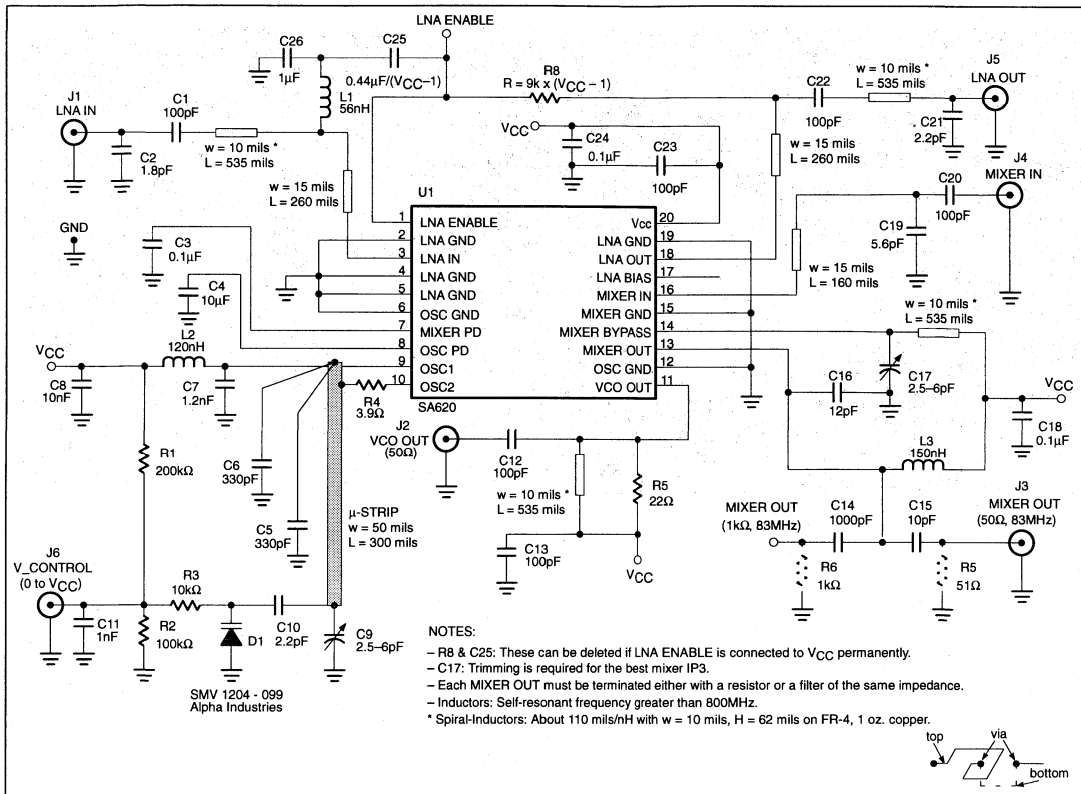

Figure 71. SA620 Application Board
Figure 71 shows the schematic of the current application board for the SA620. The functional description of each pin and its associated circuitry is summarized below.
- A.** Capacitor  $C_{15}$  and inductor  $L_1$  on the SA601 schematic of Figure 67 are the necessary components needed to ensure stability. Without these components, the amplifier will generate spurs approximately 1.5MHz off the carrier at  $V_{CC} = 3V$ . The similar components on the SA620 schematic in Figure 71 are capacitor  $C_{26}$  and inductor  $L_1$ .